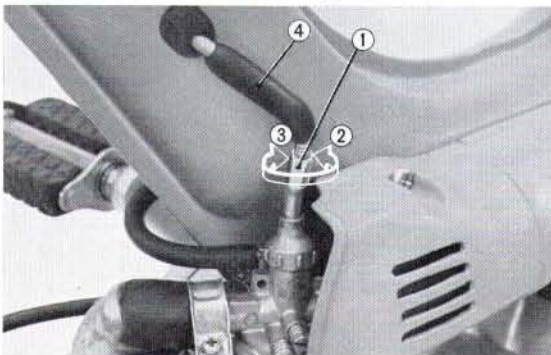

Fig. 1.26 ① Adjusting bolt ③ To increase
2. When excessive play exists in the rotating direction, adjust the throttle cable. Make the adjustment with the adjusting bolt. After the adjustment, reinstall the cap securely. (Fig. 1.26)